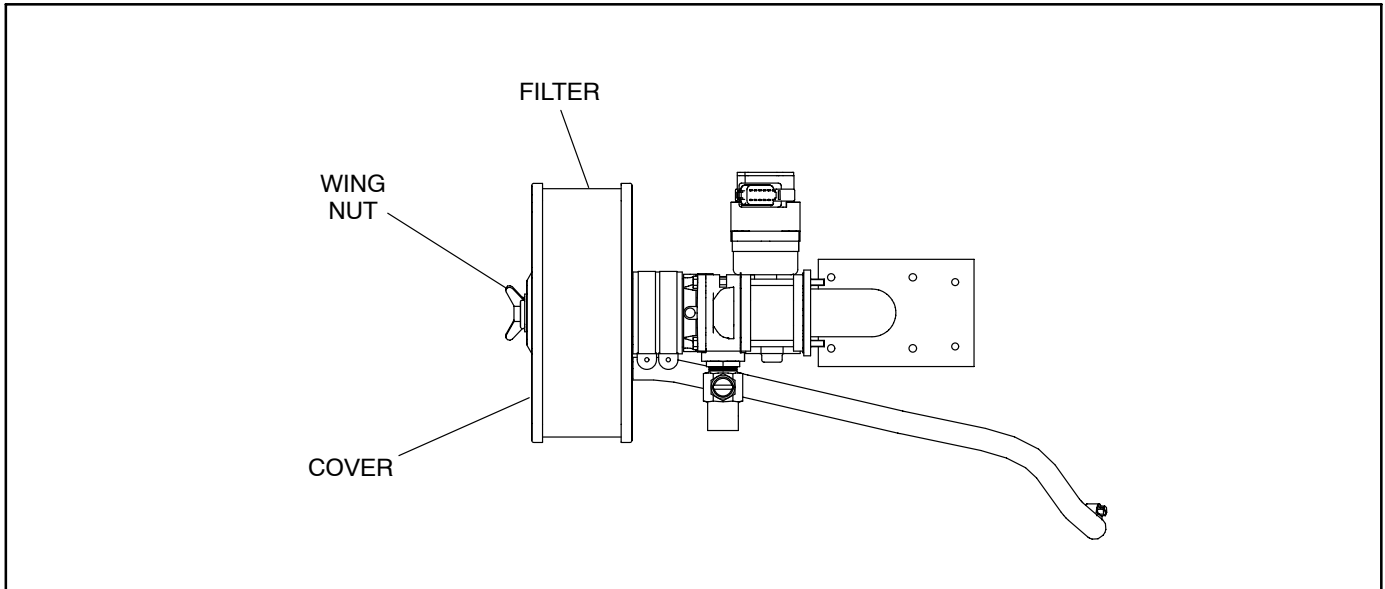

FIGURE 5-6. NORMAL DUTY AIR CLEANER
Normal Duty Air Filter (Figure 5-6)
1. Remove wing nut in center of filter cover (Figure 5-6).